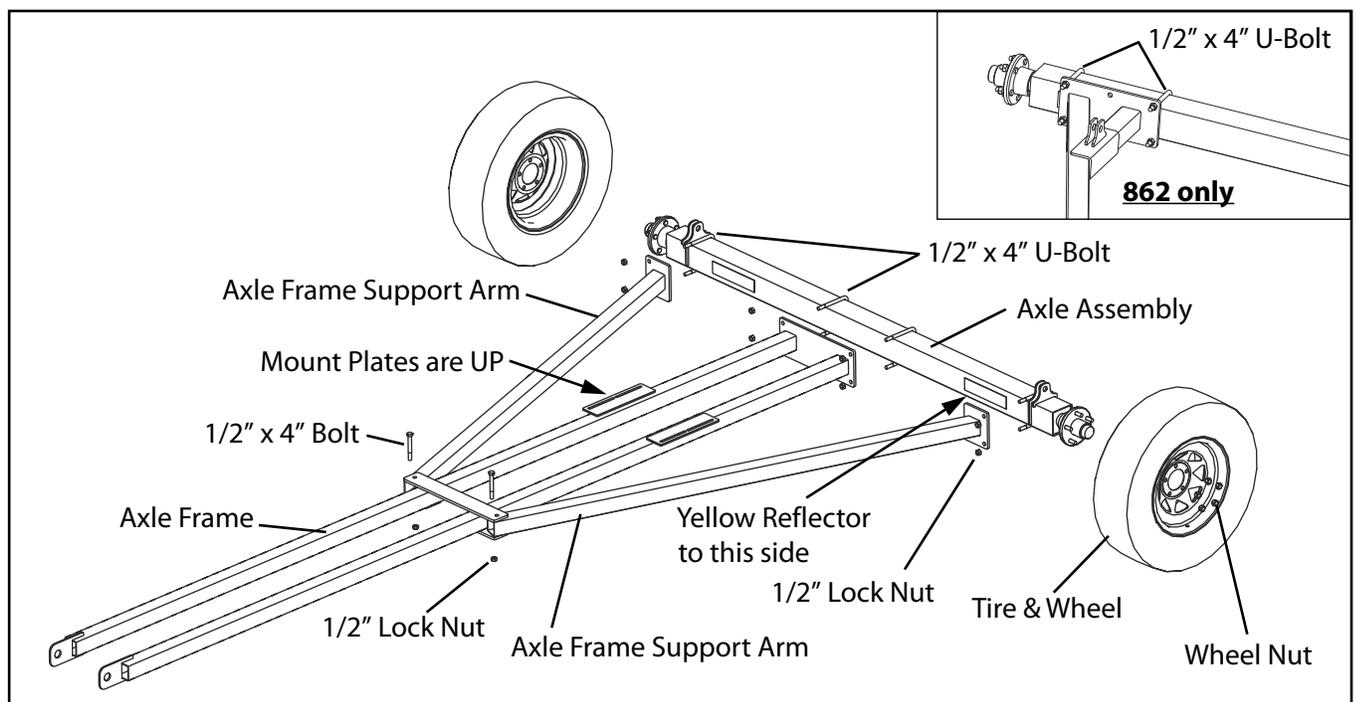

FIG. 3-11. Axle Frame Assembly
1. Loosely attach the Axle Frame to the middle of the Axle as shown in Fig. 3-11, making sure the Axle Frame is attached to the face of the Axle that has the yellow reflectors on it. Make sure the motor base mounting plates welded to the arms are UP. Use two 1/2" x 4" U-Bolt and four lock nuts. Do not fully tighten the nuts yet.